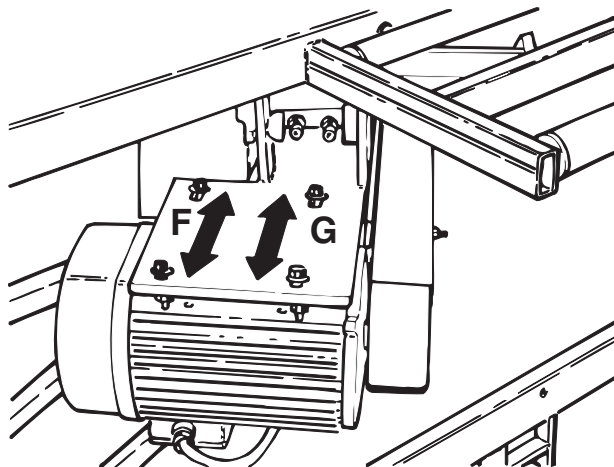

Fig. 27
- Tighten all four bolts after belt adjustment. Fig. 27.